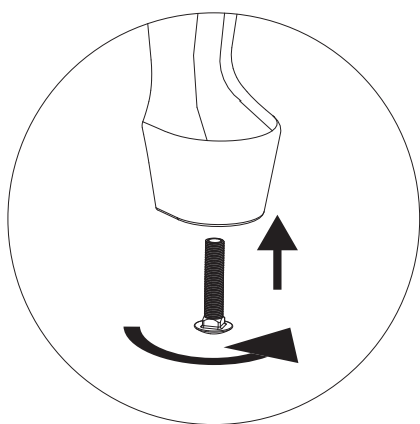

Figure 19.2
7. Use leveling bolts on legs to stabilize and level appliance (**Figure 19.2 on page 19**).